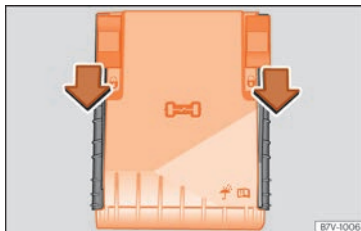

**Fig. 59** In the engine compartment: fuse box cover.
- Move the attachment tabs forwards, in the direction indicated by the arrow to release the fuse box cover »» **Fig. 59**.